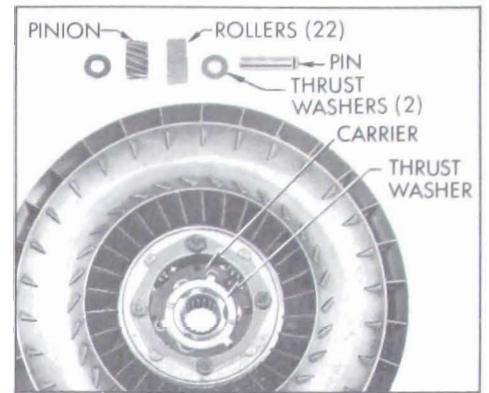

Figure 5-48—Second Turbine Parts
5. Install pinion pin lock plate so that it enters the notches of all pins, then install the four turbine-to-carrier bolts with lock-washers. See Figure 5-48.
8. Place tanged thrust washer in second turbine carrier and install sun gear in second turbine assembly. See Figure 5-48.